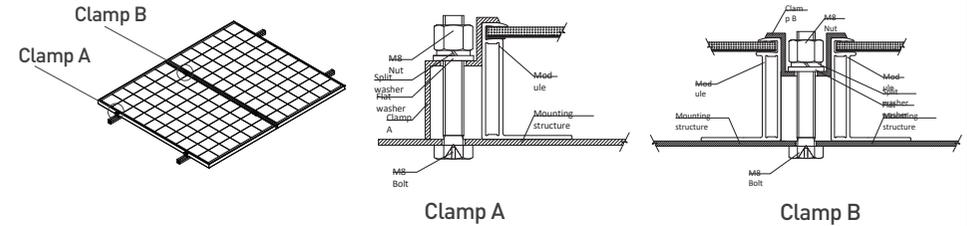

Figure 2 Clamp installation
2. Clamping installation: (see figure 2)